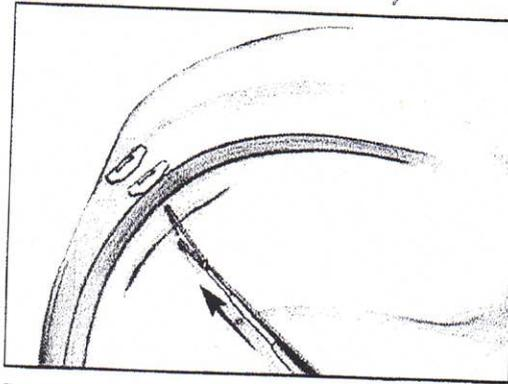

Figure 10. Suture construct tensioning
8. While holding the suture taut, gently slide the knot pusher/suture cutter to the meniscus to achieve the desired tension (Figure 10). The knot pusher should engage the suture in a direct line and perpendicular to the repair. A manual suture "pull"/"push" maneuver is suggested.